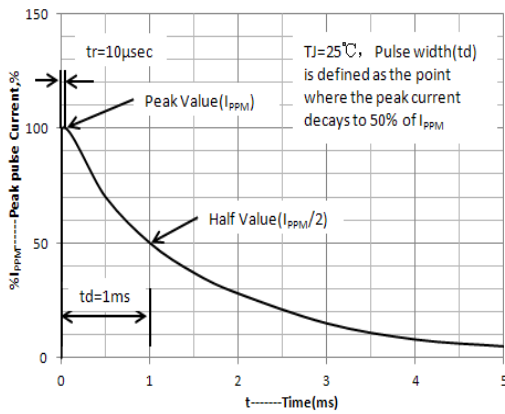
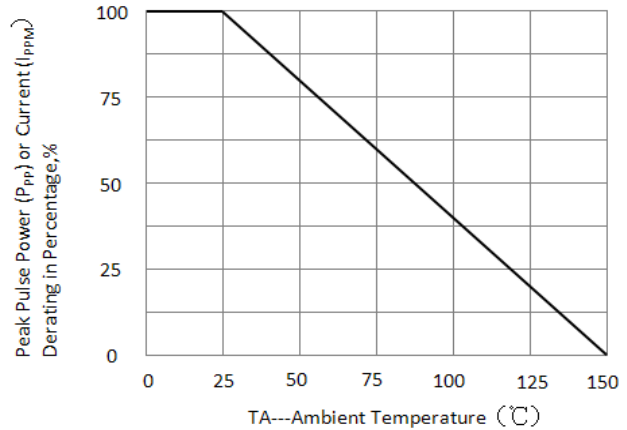

Figure 3. Pulse Waveform
Figure 4. Peak Pulse Power Derating Curve
1) Non-repetitive current, per fig.3 and derated above TA=25°C per fig.4.